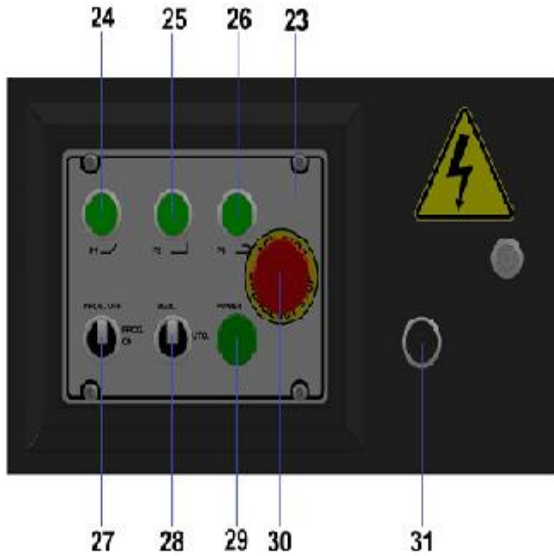

Figure 5: 220V Manual Machine Control Buttons
- Select the bending shape from the buttons on the control panel. (Figure:5 No:24,25,26)
- Adjust the machine’s speed by the Speed Controller (Figure:5 No:31) Once the speed of the machine decreased, the bending disc’s rotation speed will reduce and machine’s power (bending capacity) will increase. And when the speed is increased the bending disc’s rotation speed will increase and the machine’s power (bending capacity) will decrease.
- On stirrup bendings, switch the PROG. ON-OFF button to (Figure5: No:27) “ON” position and max. 9 different bending is adjusted at once and the bending can be done in the adjusted order.
- After the adjustment is finished, switch the MAN-AUTO button(Figure:5 No:28) to AUTO position and start to serial bending.
- In case of an emergency, machine can be stopped by pressing the 'emergency stop button2 on thecontrol panel. (Figure:5 No:30) When you start to bend machine will re-start from the latest adjusted programme.